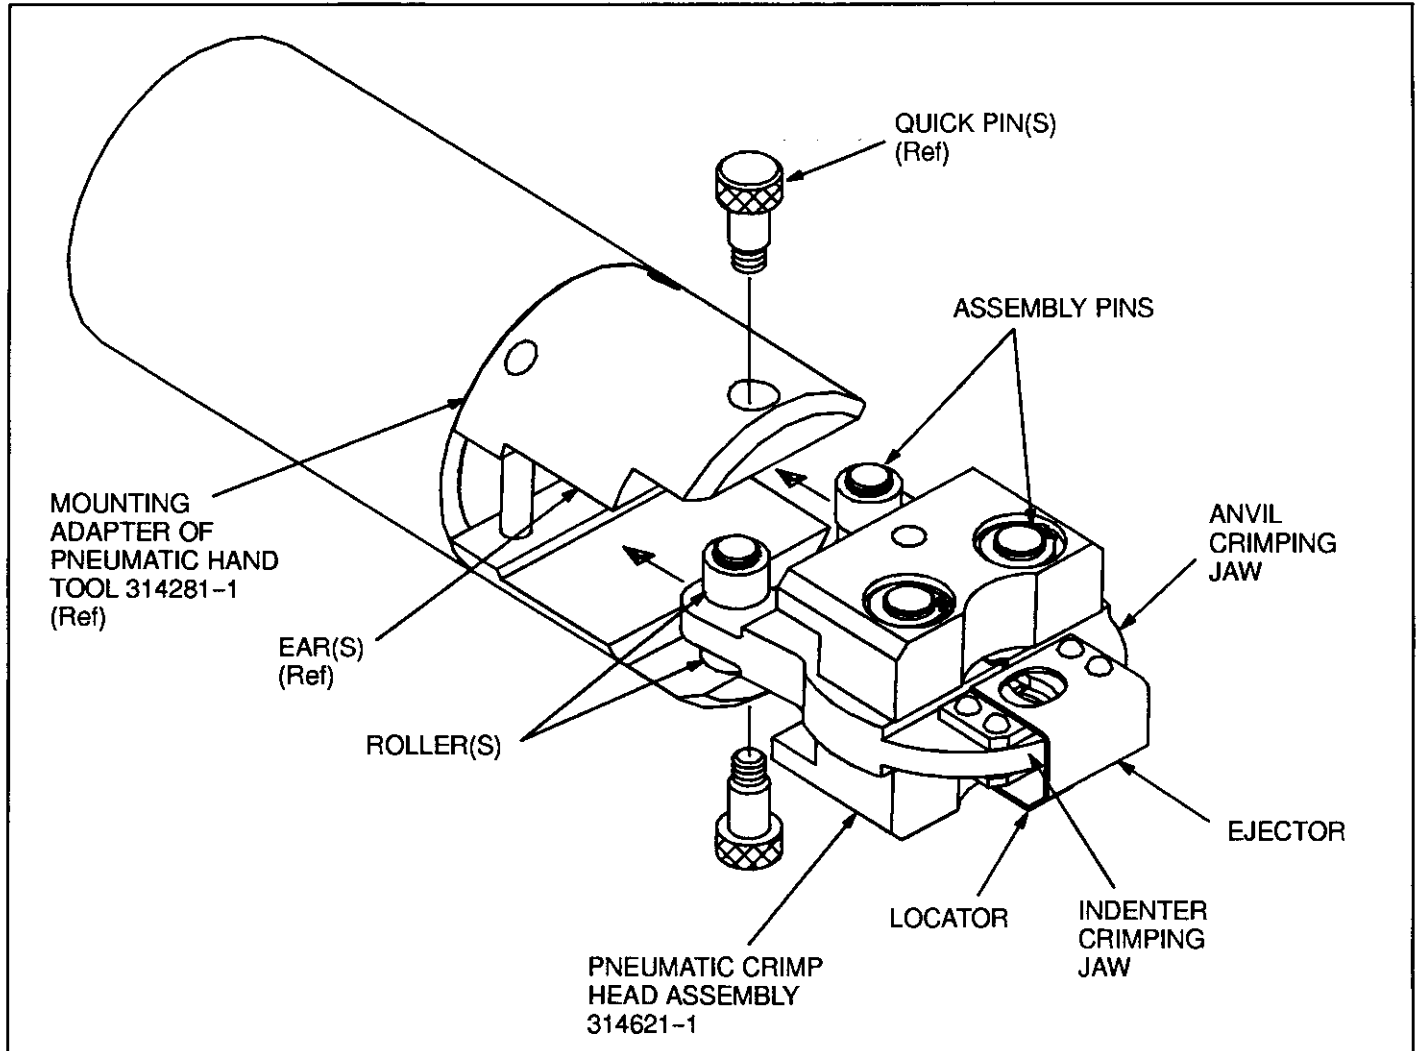

Fig. 1
## 2. DESCRIPTION (Figure 1)
**3. CRIMP HEAD INSTALLATION AND REMOVAL (Figure 1)**
1. Insert crimping head into the mounting adapter of the pneumatic tooling assembly. See Figure 1.